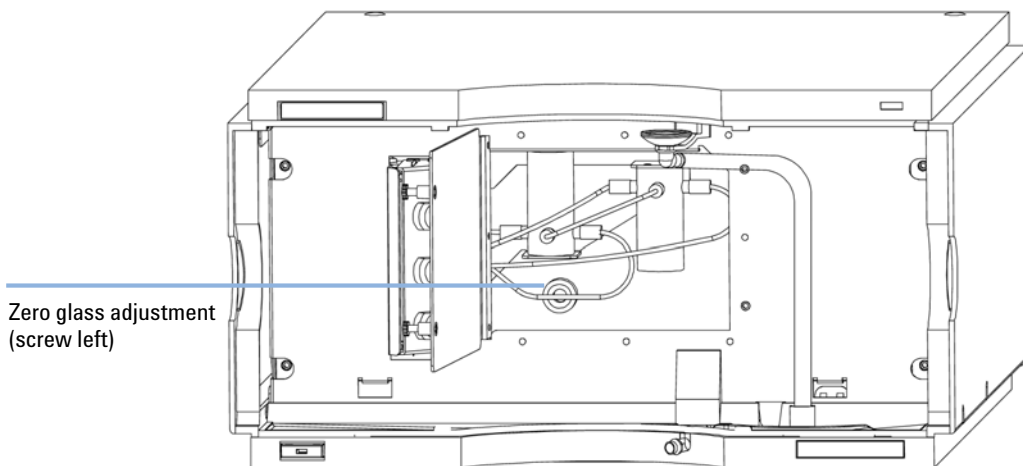

Figure 34 Turning the zero glass adjustment screw
- a** While monitoring the optical balance use the flat-headed screwdriver to turn the zero glass adjustment screw slowly (see Figure 34 on page 125).